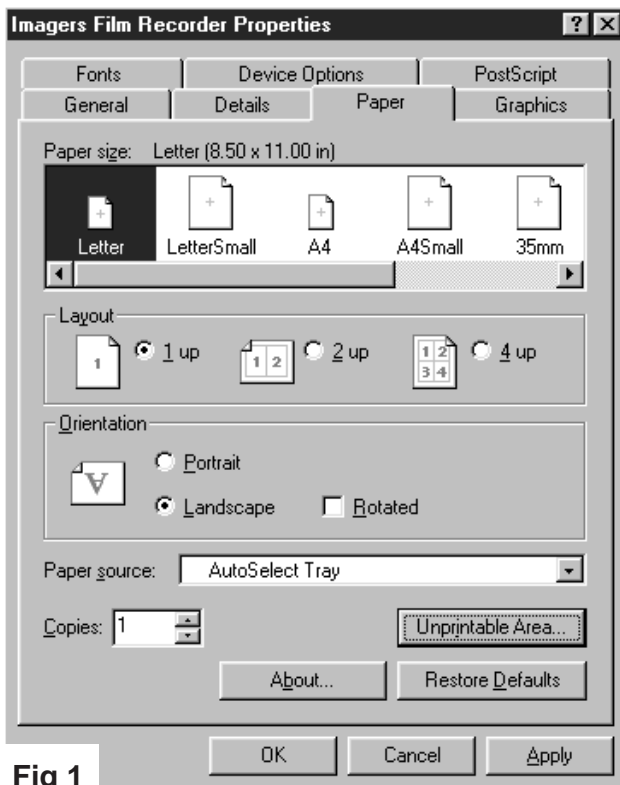

Fig 1
2. Select the Paper tab and set to Letter. (Fig 1)